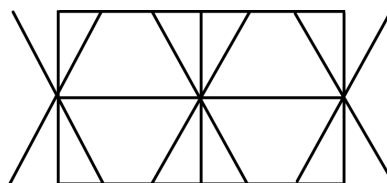

Fig. 5
- a. Adjust ANGLE so that the vertical line is orthogonal to the horizontal line (Fig. 5).